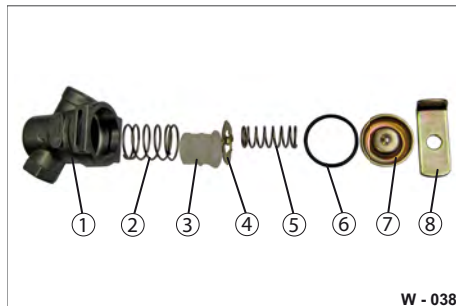

Fig. 38 Line filter disassembled
- ▶ Press the cover (Fig. 38/8) downwards with a screwdriver and pull out the bracket (Fig. 38/9).
- ▶ Remove both springs (Fig. 38/3 & Fig. 38/6), the seal (Fig. 38/7), the intermediate plate (Fig. 38/5) and the filter (Fig. 38/4).
- ▶ Clean the filter housing (Fig. 38/2) with a clean, dry cloth.
- ▶ Clean the filter (Fig. 38/4).
- ▶ Check if the seal (Fig. 38/7) is present or damaged.
- ▶ Set the small springs (Fig. 38/6) on the latches of the intermediate plate.
- ▶ Set the cover (Fig. 38/8) on top.